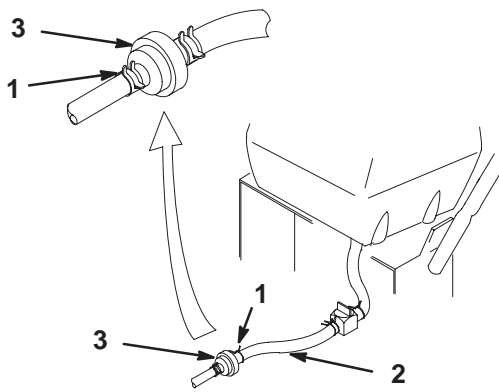

Figure 37
- Squeeze the ends of the hose clamps together and slide them away from the filter (Fig. 37).